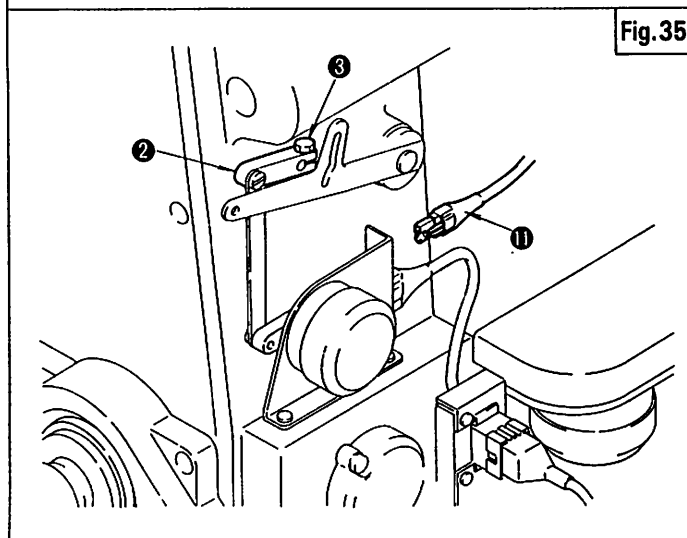

Fig.35
● If Thread Wiper ❾ is not necessary to be worked, unplug Connector ❶ (Fig. 35).
1. The gap between Pin ① and the end of the elongated hole should be about 3mm.
To adjust this, loosen Screw ③ on Crank ② (Fig. 35).
2. The distance between Guide ④ and the point of the thread release bar should be about 10mm.